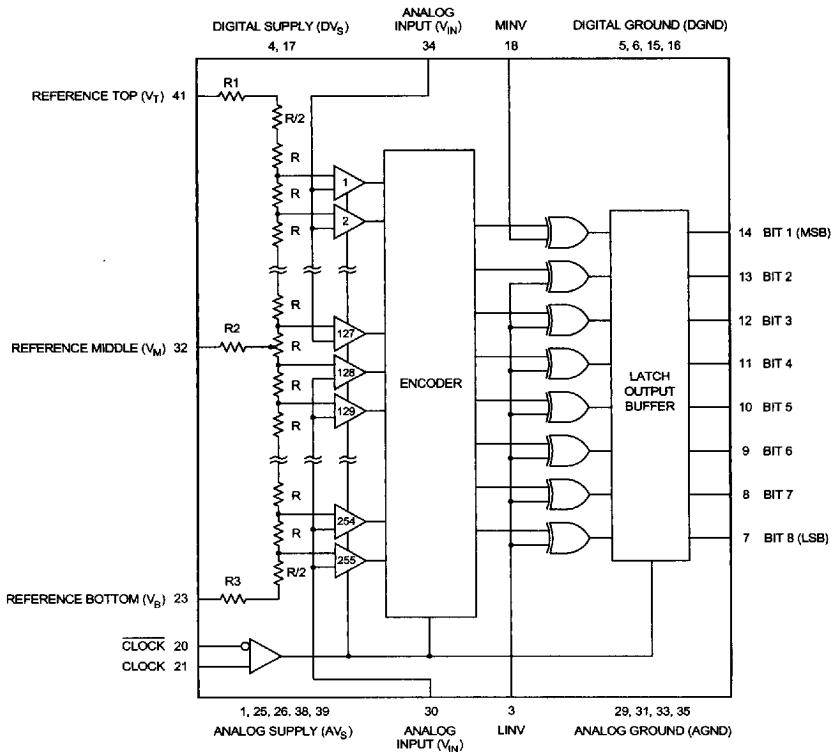

Figure 1. Functional Block Diagram
① Refer to Functional Block Diagram, Figure 1.
② For conversion rate of 125MHz.
③ TPS = Times per sample. Each unit is production tested for 10 seconds.
④ 220Ω pull-down resistors required on digital outputs.